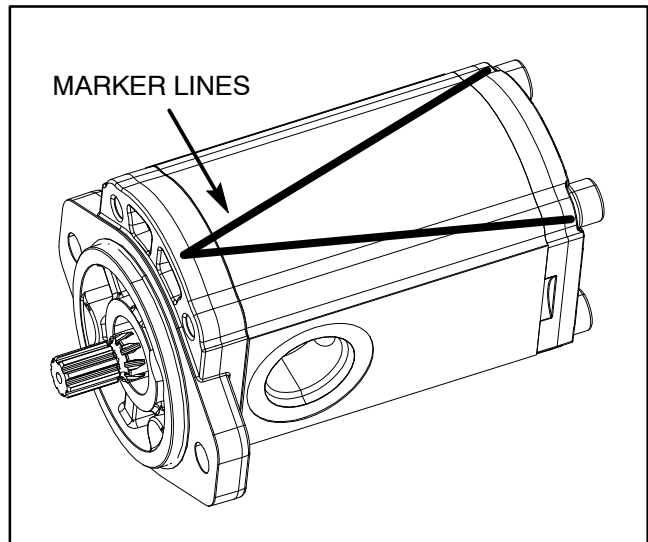

Figure 36
2. Use a marker to make a "V" across the front cover, housing and end cover for assembly purposes (Fig. 36).